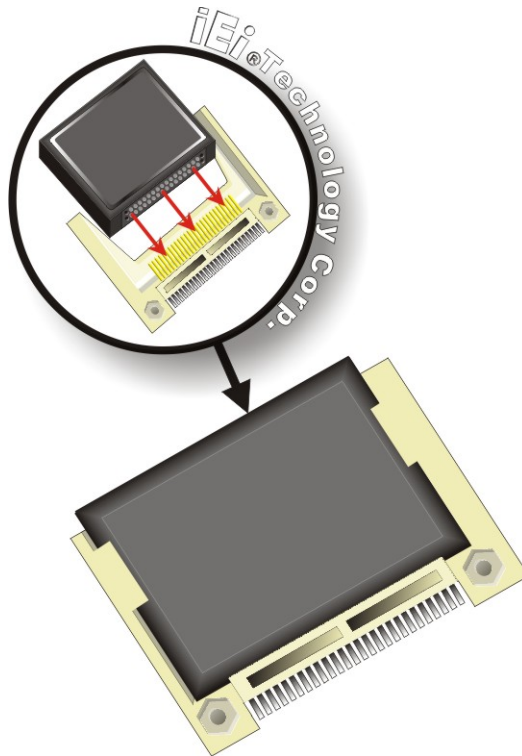

Figure 4-4: CF Card Installation
Step 4: Insert the CF card. Gently insert the CF card into the socket making sure the socket pins are properly inserted into the socket. See **Figure 4-4**.